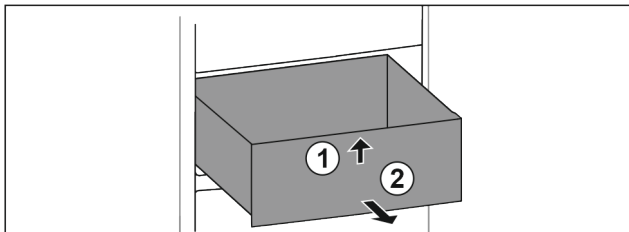

Fig. 131
- ▶ Lift up drawer at the front. Fig. 131 (1)
- ▶ Remove drawer to the front. Fig. 131 (2)